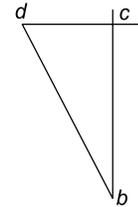

Figure 6.13
The reaction R_2 can be determined by considering joint (2), i.e. joint BCD , as shown in Figure 6.13, where the vector bc represents the unknown reaction R_2 which is measured as 2.18 kN.